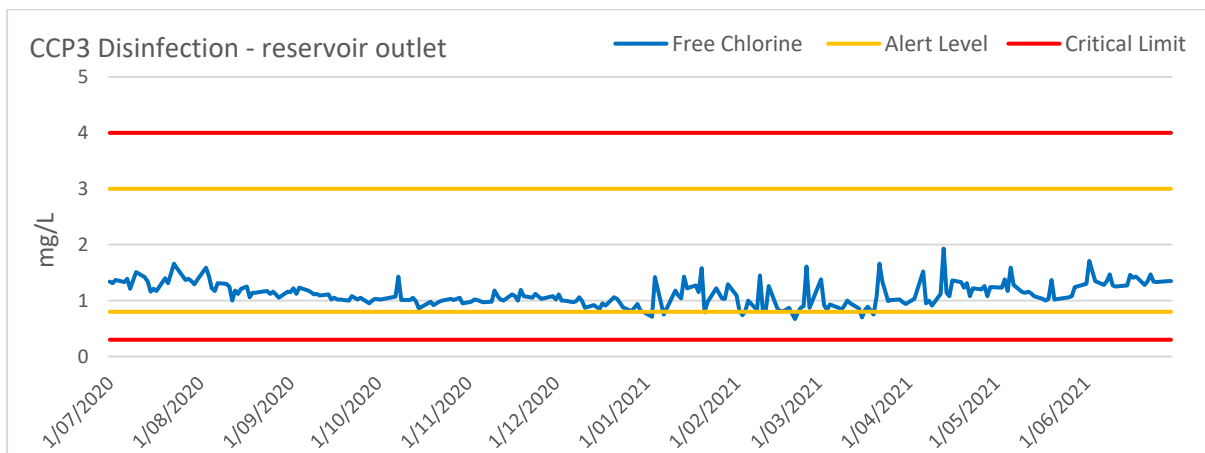

Figure 4.3.8b - CCP3 Disinfection – Free Chlorine Thungutti Reservoir outlet
The eight (8) CCP3 Disinfection Free Chlorine exceptions were all in the second half of the reporting year (Figure 4.3.8b). Contributing factors include: